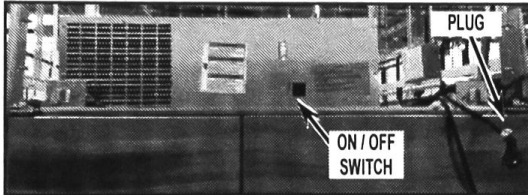

FIGURE 1
2. Locate the ON/OFF switch and toggle the position to OFF. See *Figure 1*.